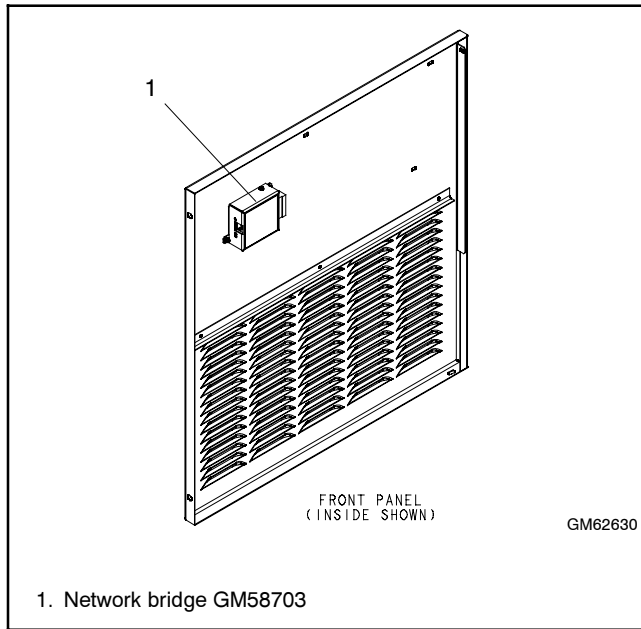

Figure 13 17/18RES Network Bridge Installation
d. Network bridge GM58703 mounts inside the front panel as shown in Figure 13. Drill two 4.8 mm (3/16 in.) mounting holes in the front panel at the locations shown in Figure 14.